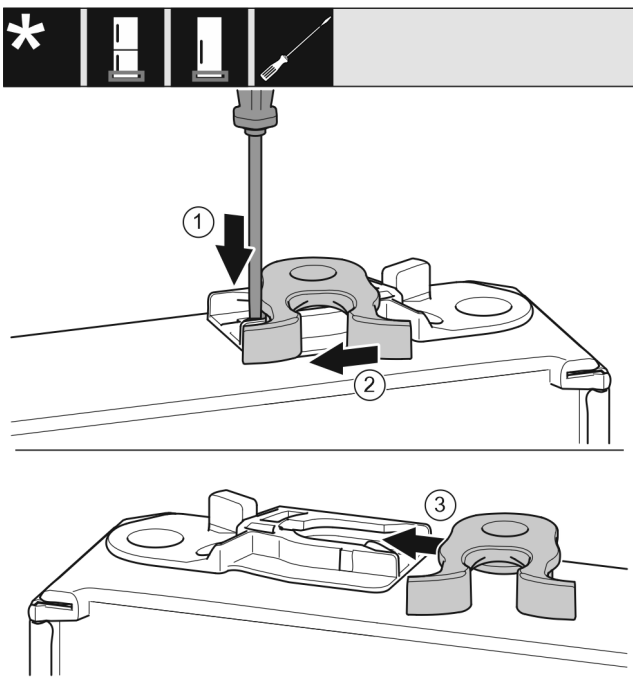

Fig. 17
- Use a slotted screwdriver to push the tab Fig. 17 (1) downwards.
- Pull the closing hook Fig. 17 (2) out of the guide.
- Insert the closing hook Fig. 17 (3) into the guide on the other side.